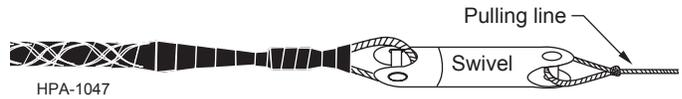

Figure 27
**5.18** Connect the pulling eye to the appropriate ball bearing swivel and pulling tape (Figure 27). The grip installation is now ready for the cable placement.